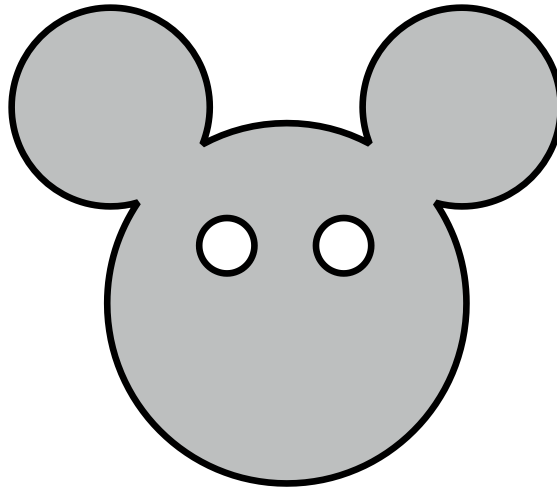

Fig. 3
- 3 **Figure 3** shows part of a toy made from 2 mm thick plastic.